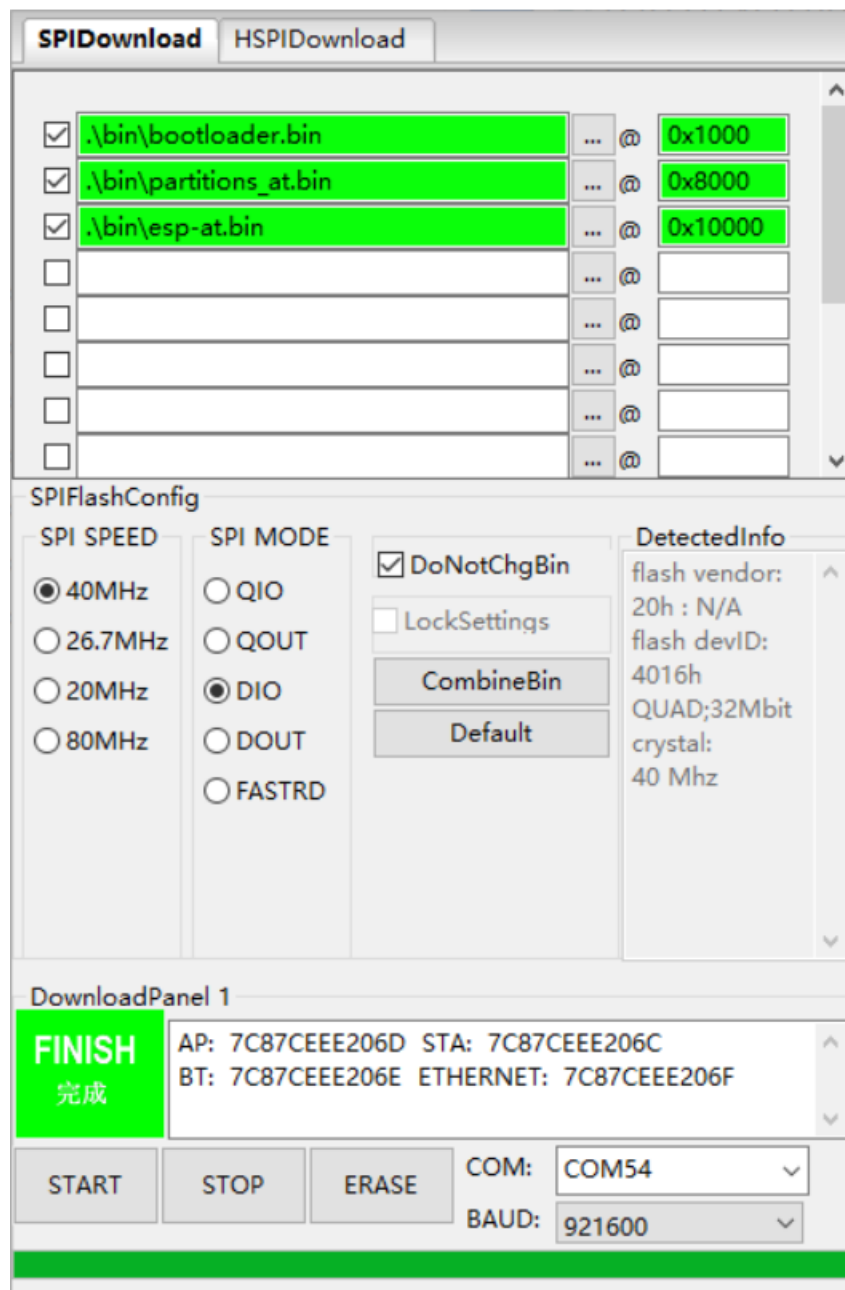

Figure 3-2. Download Completed
5. After the download is complete, the tool interface is shown in Figure 3-2.